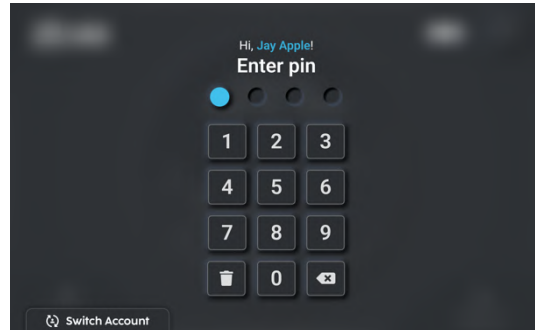

FIGURE 9-7
2. Once the e-stop button is released, enter the PIN for the account that is logged in (**Fig. 9-7**).